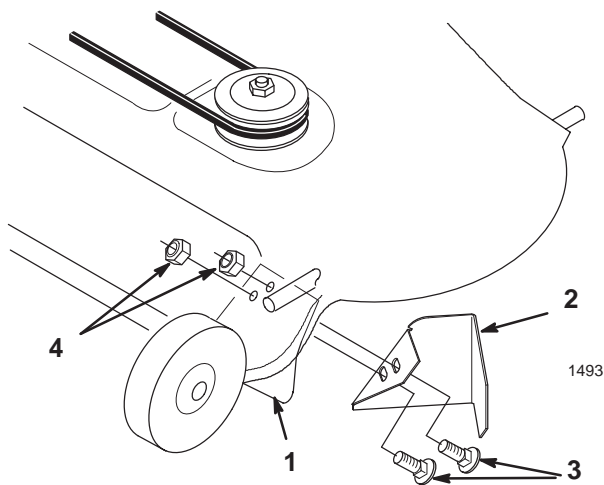

Figure 6
- On 48 in. mowers, secure the grass baffle (Fig. 6) with 2 carriage bolts (5/16 x 1 in.) and locknuts (5/16 in.).